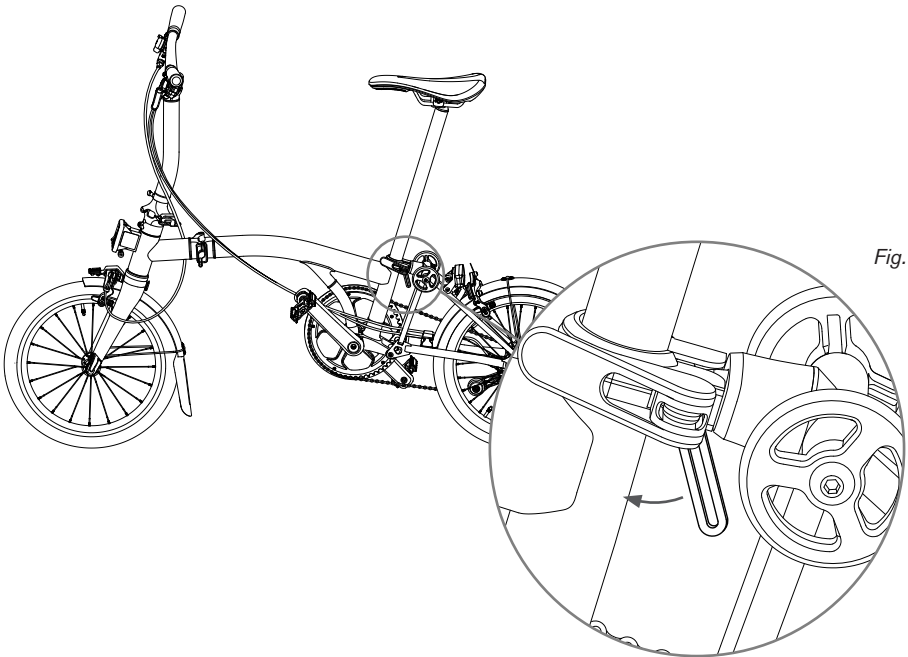

Fig. 12
- Insert the inner cable IC into the cable housing CH (fig.12)
- Using some needle nose pliers or similar, pull the cable through the housing and insert into the derailleur (fig.12)
To release the rear frame press the small lever (fig. 12) forward and lift the bike so the suspension block moves away from the latch and the rear wheel swings under the frame. Lower the bike so it sits in the parked position.